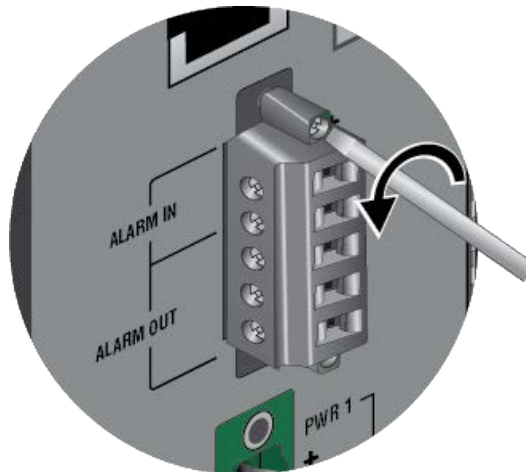

Figure 56. Loosening the Captive Screws on the ALARM IN / ALARM OUT Plug
4. Loosen the two captive screws securing the ALARM IN / ALARM OUT plug to the switch. Refer to Figure 56.